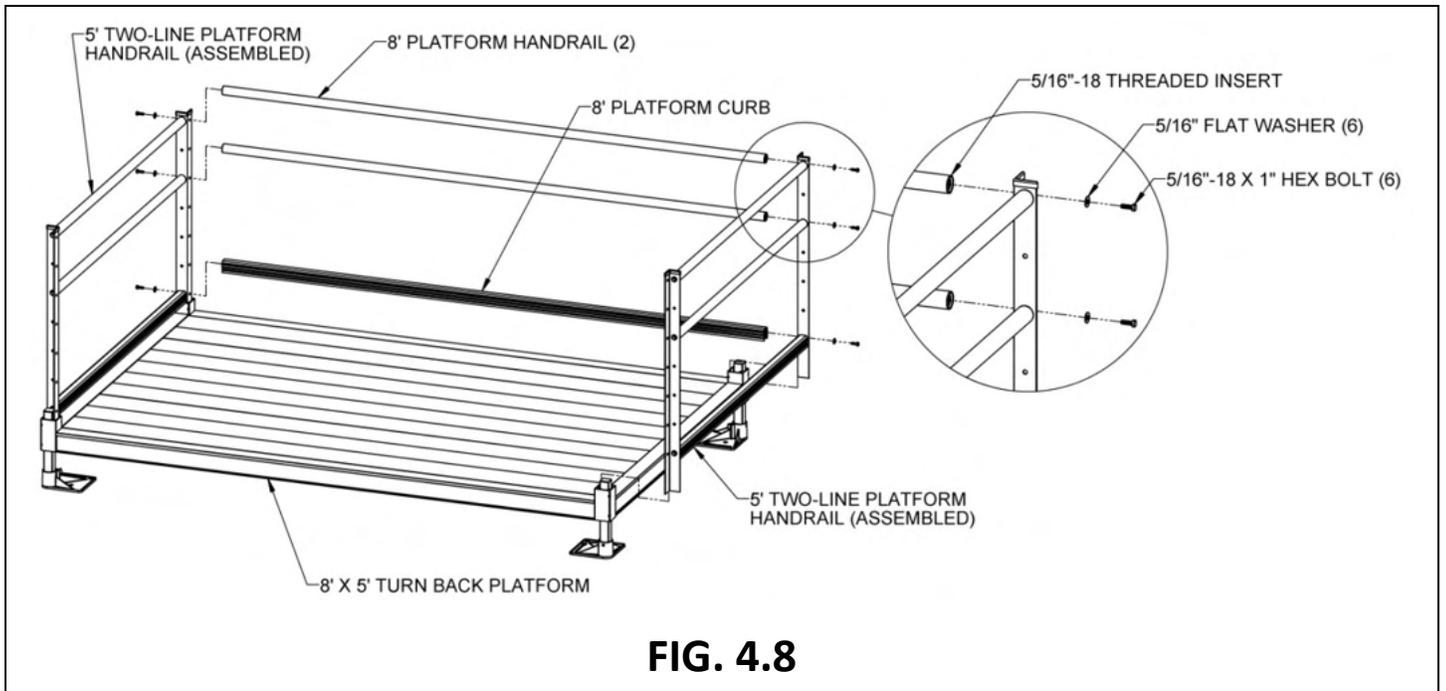

FIG. 4.8
- 4.5.3. Assemble the 8' platform handrails and curb between the two 5' platform handrails by threading 5/16"-18 x 1" long hex bolts through the holes in the 5' platform posts which align with the 5' handrails and curb and into the threaded inserts in the ends of the 8' handrails and curb. Tighten all fasteners securely (FIG. 4.8).